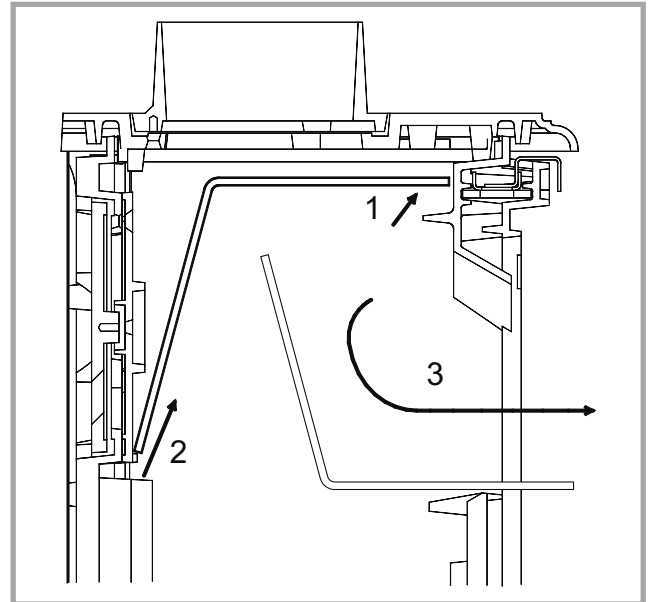
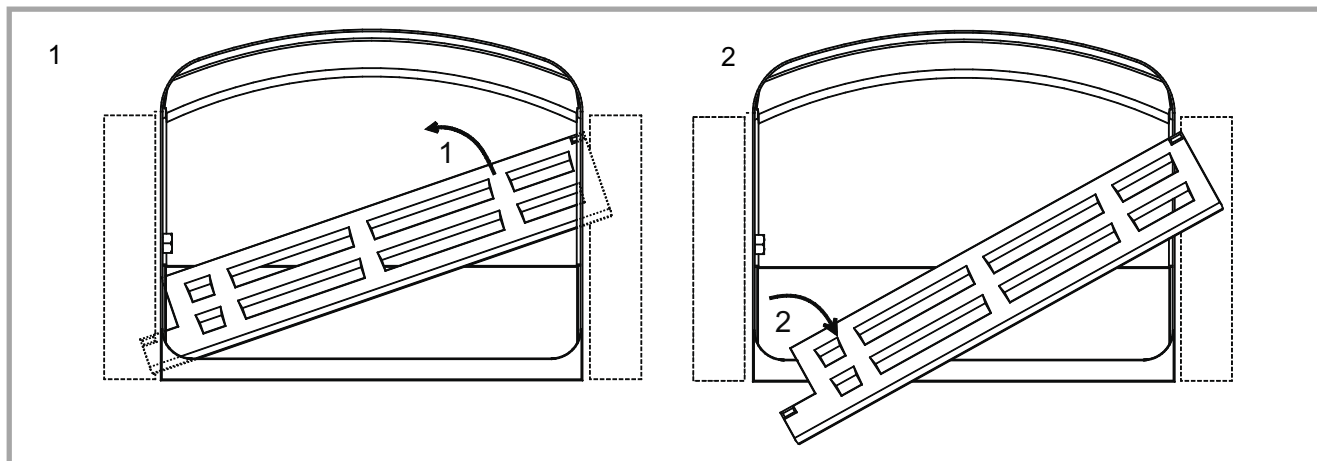
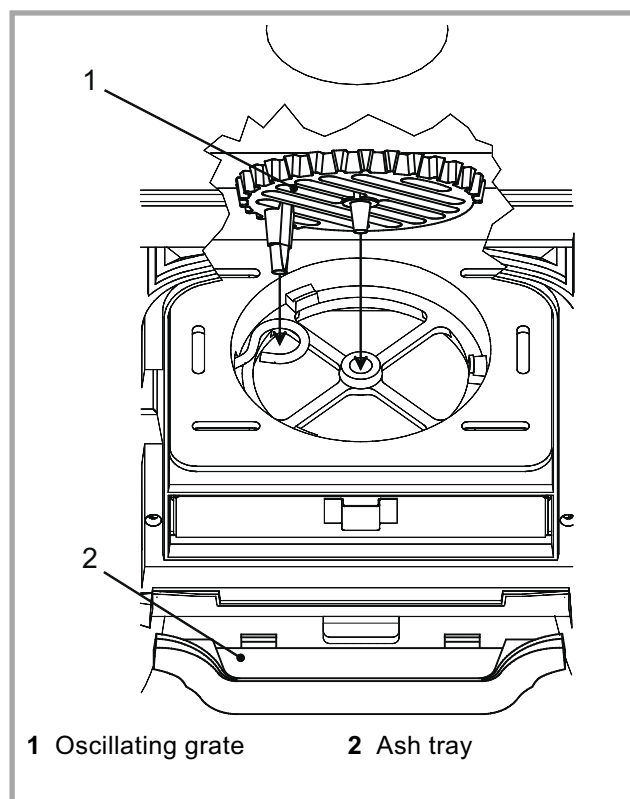

Figure 3 - Removing the flue baffle
Figure 9 - Removing the fuel retainer
Figure 10 - Mounting the oscillating grate and the ash tray
- Check that all removable parts are correctly installed (fuel retainer (fig. 9), oscillating grate (fig. 10), baffle (fig. 3) Etc.).
- Fit the ash tray, located in the ash pan, between the front legs (# 2, fig. 10).